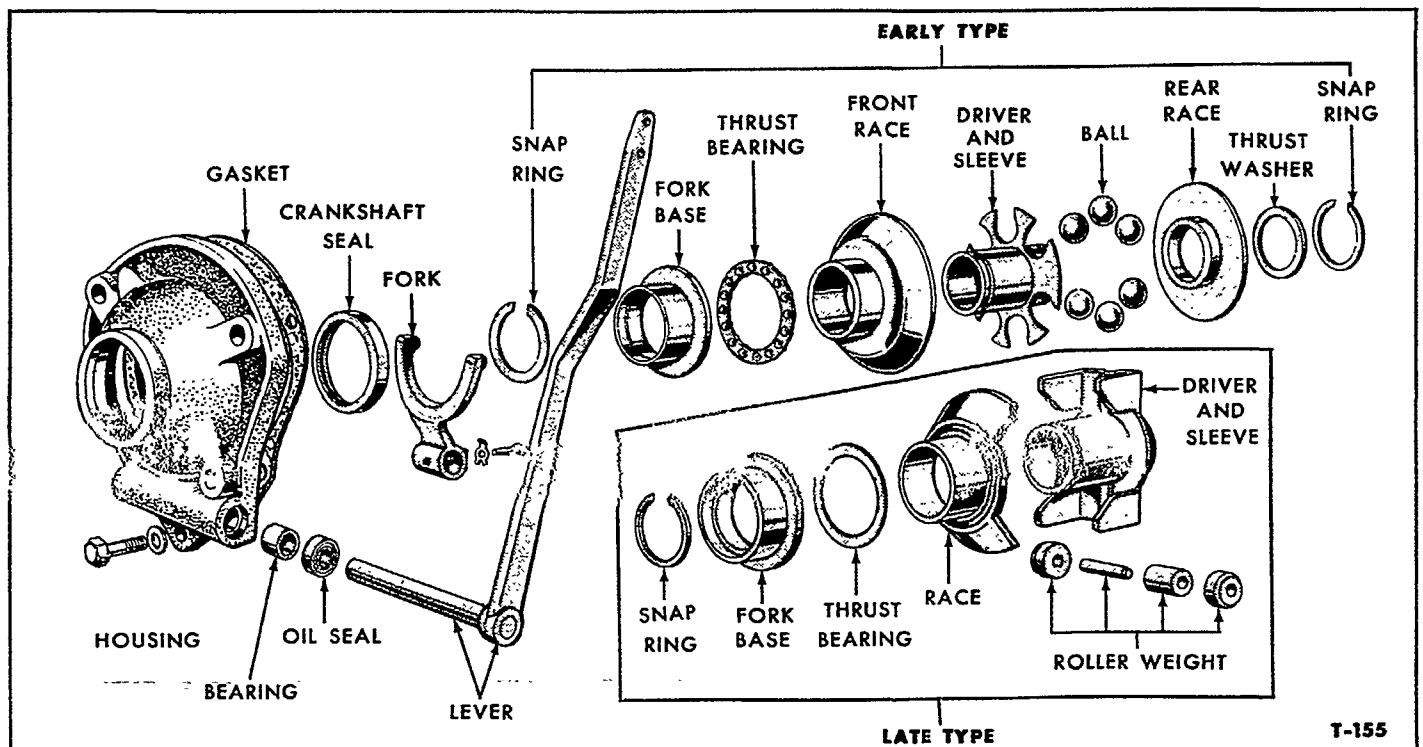

Figure 67—Governor Disassembled
Two different governors are used on gasoline and LP-Gas engines. Both are centrifugal, variable speed control type and are mounted on the front of the crankshaft directly behind the pulley, Figure 67. Early type governors are provided with a tab on the sleeve and driver assembly to engage the crankshaft and drive the governor. The later type governors are compressed between the pulley hub and crankshaft gear to provide a means of driving them. Moving the hand throttle lever to increase the engine speed applies pressure on the governor rod compensating spring. This actuates the governor arm, which in turn through linkage, opens the carburetor throttle valve.
Governor action is controlled by six steel balls (early type) or two rollers (late type), Figure 67. As engine speed increases, centrifugal force moves the balls or rollers outward. This action forces the upper race forward, moving the fork and governor arm against the governor compensating spring tension. This action tends to close the carburetor throttle until a balance between
2. Lift the governor fork base, thrust bearing, race assembly and roller weights or balls as shown in Figure 67.
1. If assembling a ball type (early type) governor, install the bearing lower race, thrust washer and snap ring on the rear of the sleeve and driver assembly, Figure 67.